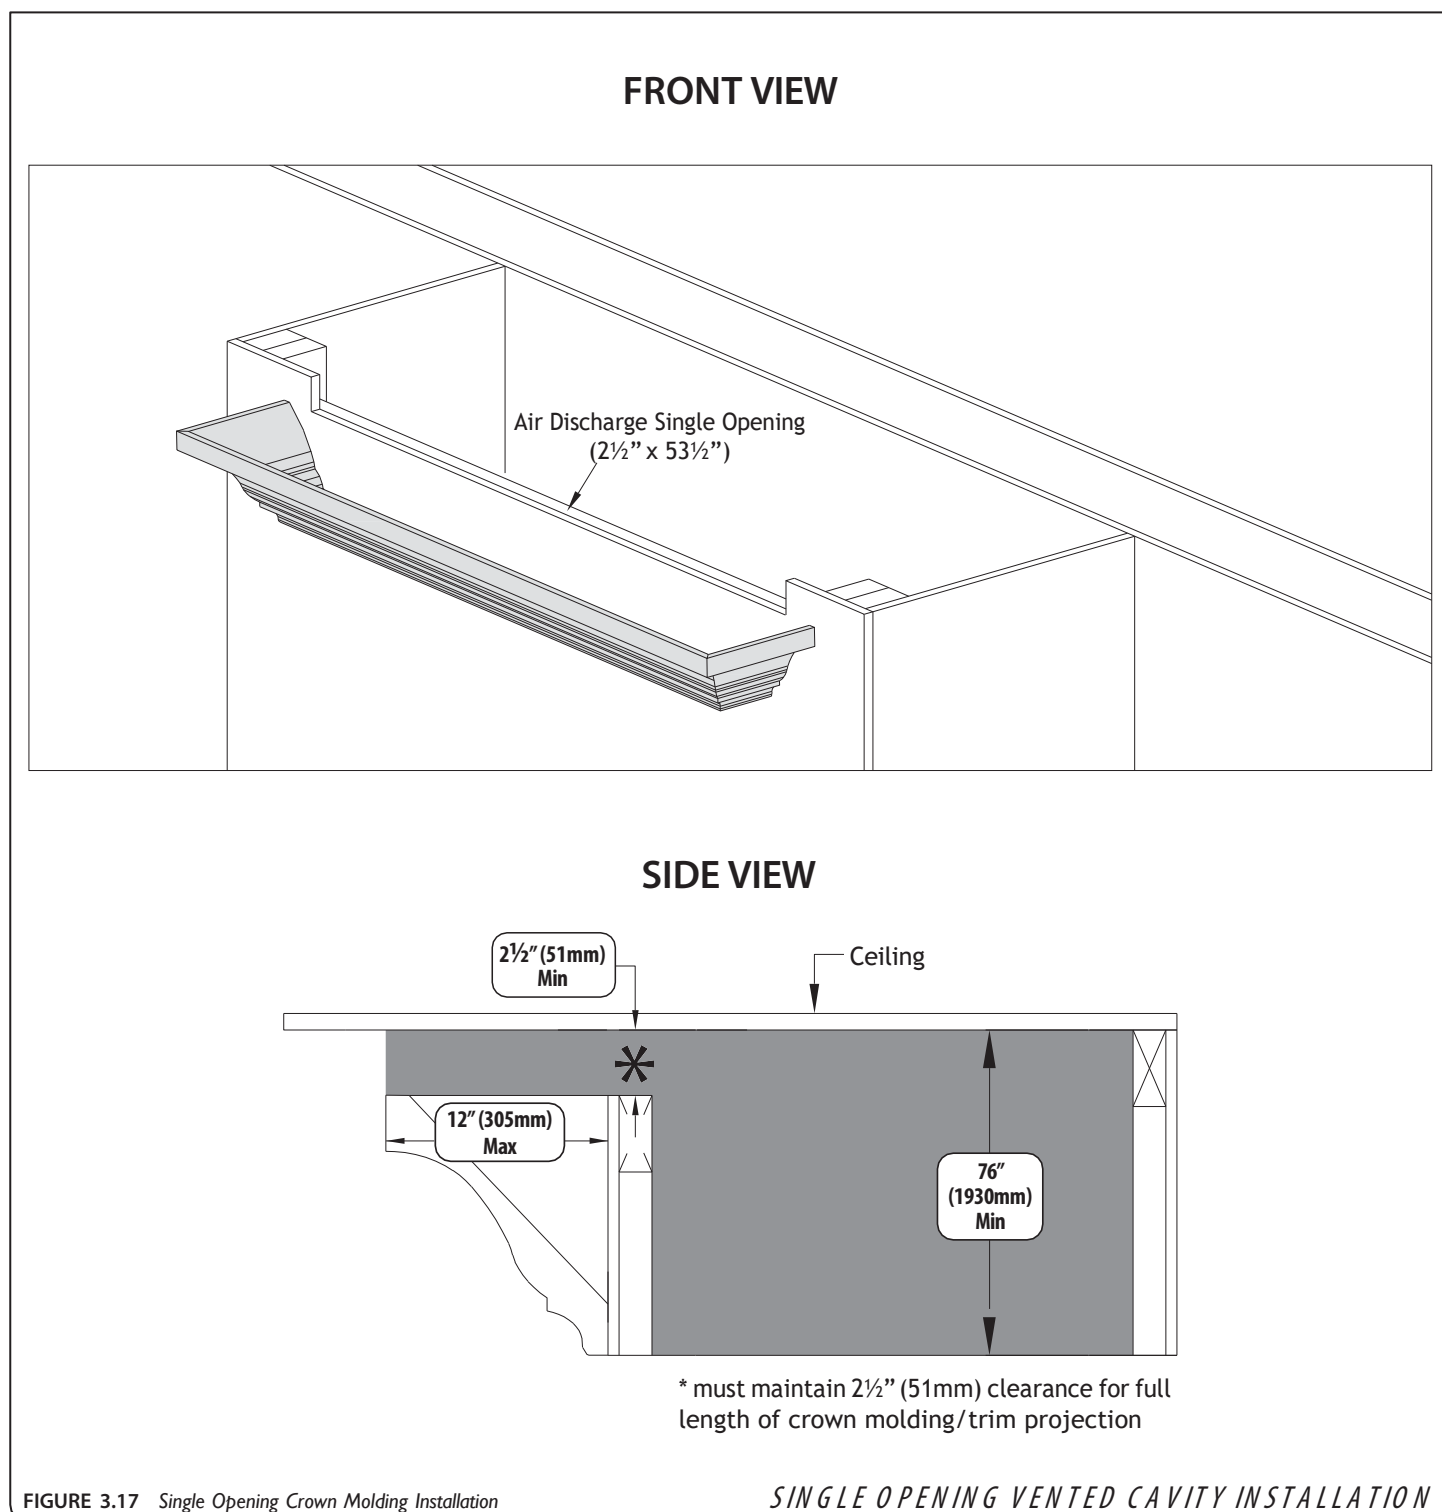

FIGURE 3.17 *Single Opening Crown Molding Installation*
- FIGURE 3.17 shows the installation of crown molding or similar trim work that goes up to the edge of the air discharge opening. 12" (305mm) is the maximum length of the molding or trim projection and you must maintain 2-1/2" (51mm) clearance for the full length of crown molding/trim projection. This molding or trim cannot decrease the minimum opening requirement.